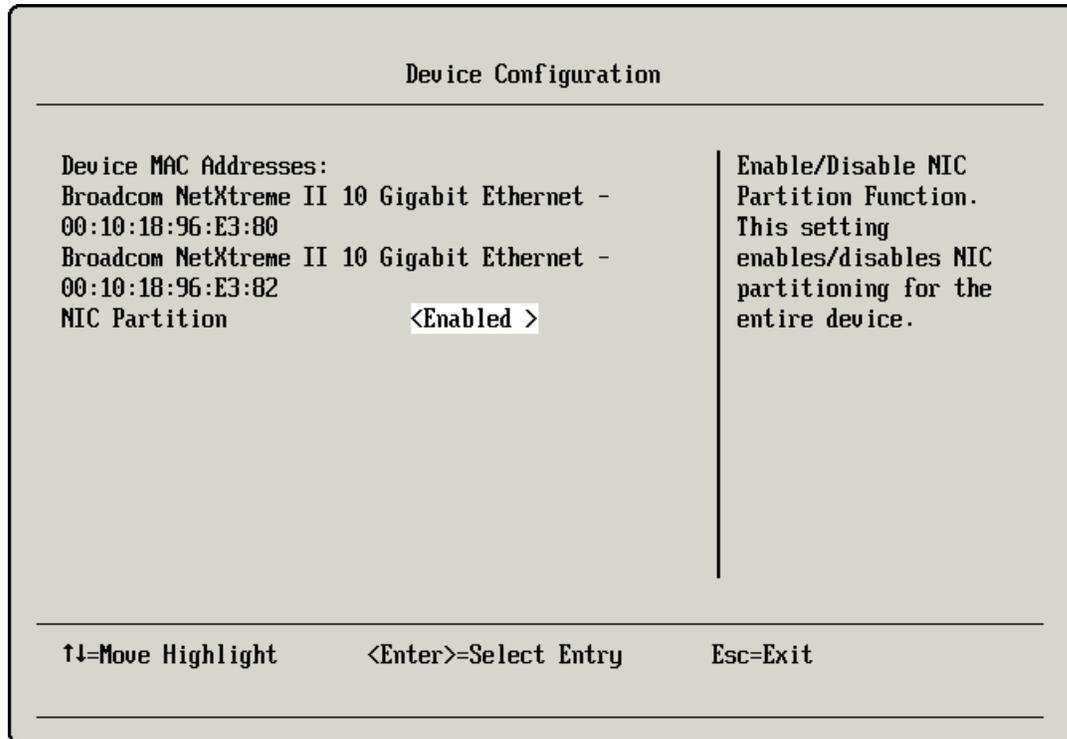

Figure 10-17 Device Configuration panel with NIC Partition set to Enabled
7. In the Device Configuration panel (Figure 10-17), highlight NIC Partition, and set it to **Enabled**. Press Esc.